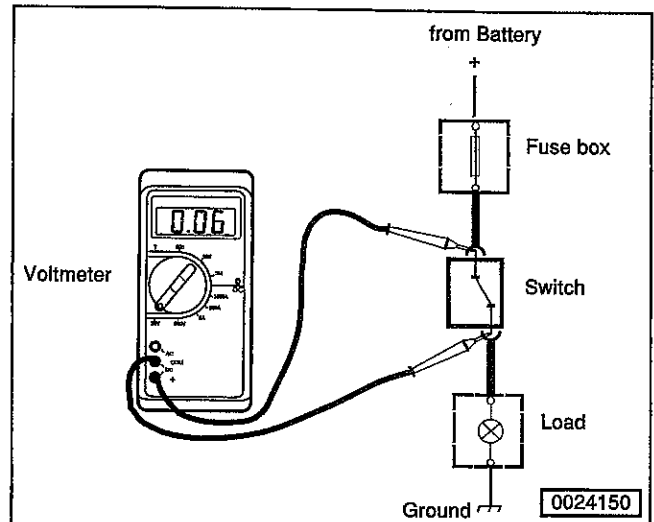

Fig. 2. Voltmeter being used to check for voltage drop across switch.
2. Connect the voltmeter negative lead to the negative (-) connector of the component being tested. See Fig. 2.